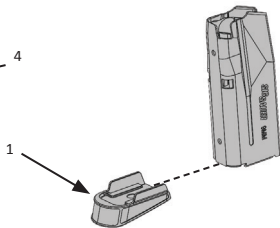

Figure 2
4. Depress the insert and slide floorplate (Figure 2, Item 1) onto magazine tube until the stud on the insert snaps into the floorplate.